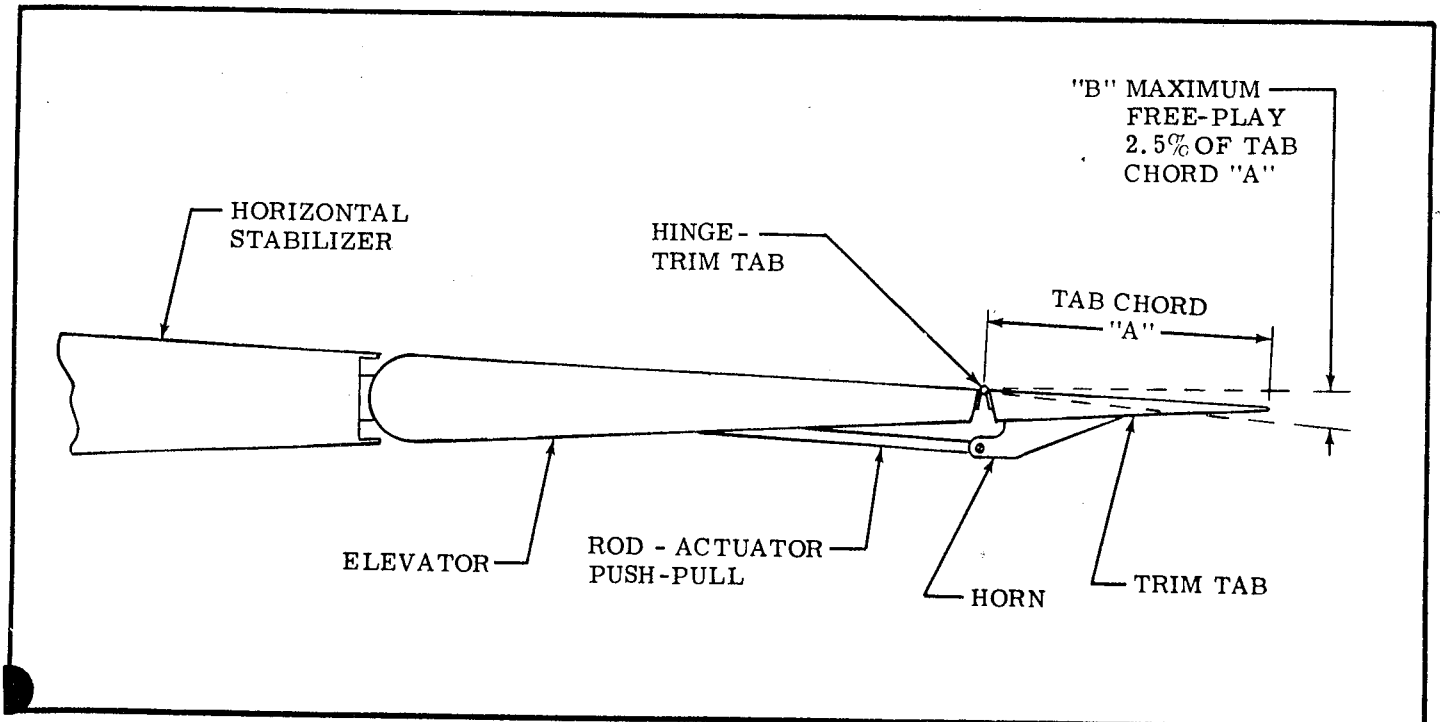

Figure 1. Trim Tab Free-Play Geometry.
- b. (Refer to Figure 1). Total free-play (dimension B) at the tab trailing edge must be less than 2.5% of the tab chord, (dimension A). Both dimension A & B are to be measured at the same station as the tab push-pull horn. Dimension A will also be measured perpendicular to the tab hinge line.